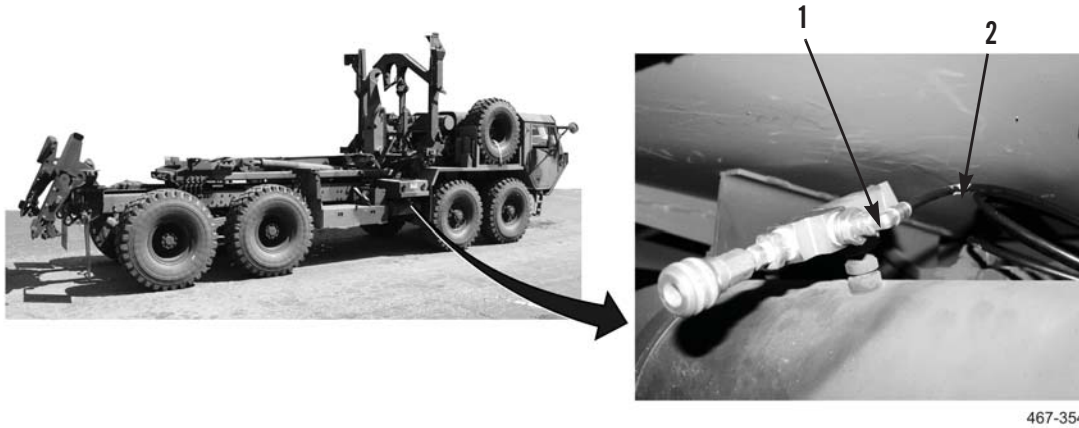

Figure 9. HEMTT M1120 Air Tank Hose Installation.
1. Connect pneumatic hose (Figure 9, Item 2) to press-lock fitting (Figure 9, Item 1).